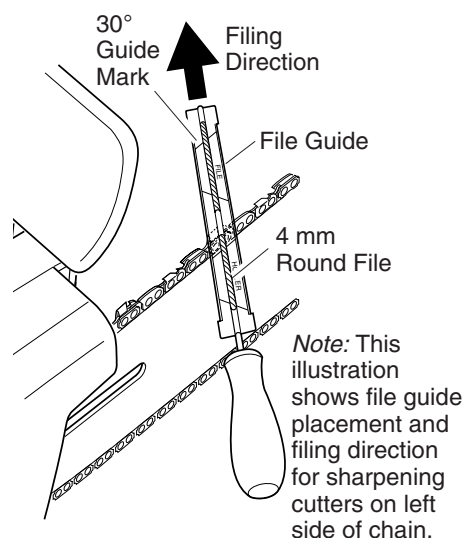

Figure 20 - File and File Guide Placement On Chain
3. Press four millimeter round file (attached to file guide) into groove between top plate and depth gauge on chain. File guide should rest on both top plate and depth gauge (see Figures 20 and 21). **Note:** File at midpoint of guide bar.
4. Hold file guide level. Make sure 30° mark on file guide is parallel to center of guide bar (see Figure 20). This will insure that you file cutters at 30° angle.
5. File from inside towards outside of cutter until sharp. Only file in this one direction (see Figure 20). **Note:** Two or three strokes with file should sharpen cutter.